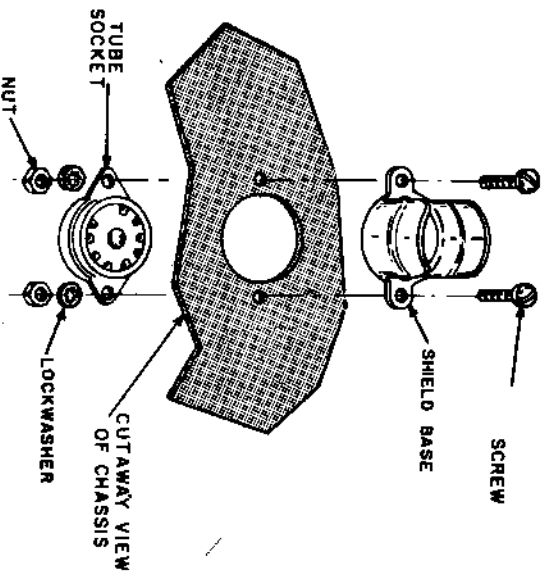

FIGURE 3. SHIELD BASE MOUNTING
- 5 Four 9-pin tube sockets and four shield bases for V-1 through V-4. The socket with the center pin is V-1. Position the shield bases on top of the chassis and the sockets on the bottom with the keyways positioned as shown. Mount each with two 4-40 x $\frac{1}{4}$ " screws, #4 lockwashers and nuts as shown in Figure 3.